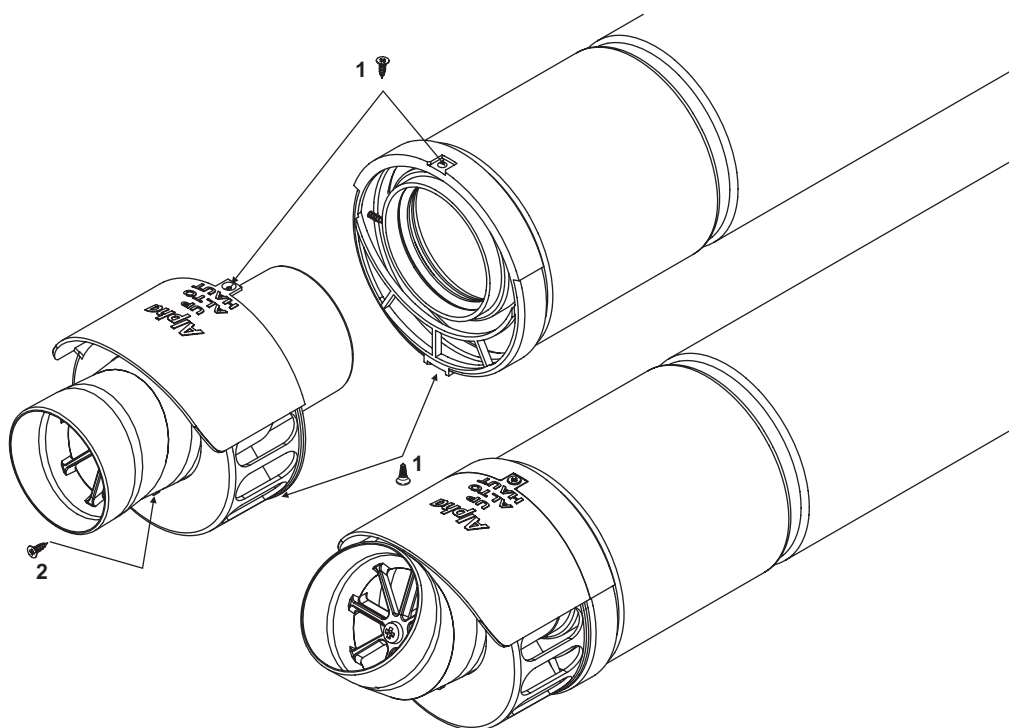

Fig. 5.14
- i. Remove the screws (1 in Fig. 5.14) securing the terminal and remove the terminal by pulling it from the flue assembly. Remove the screw (2 in Fig. 5.14) securing the terminal end section and remove the end section from the terminal.